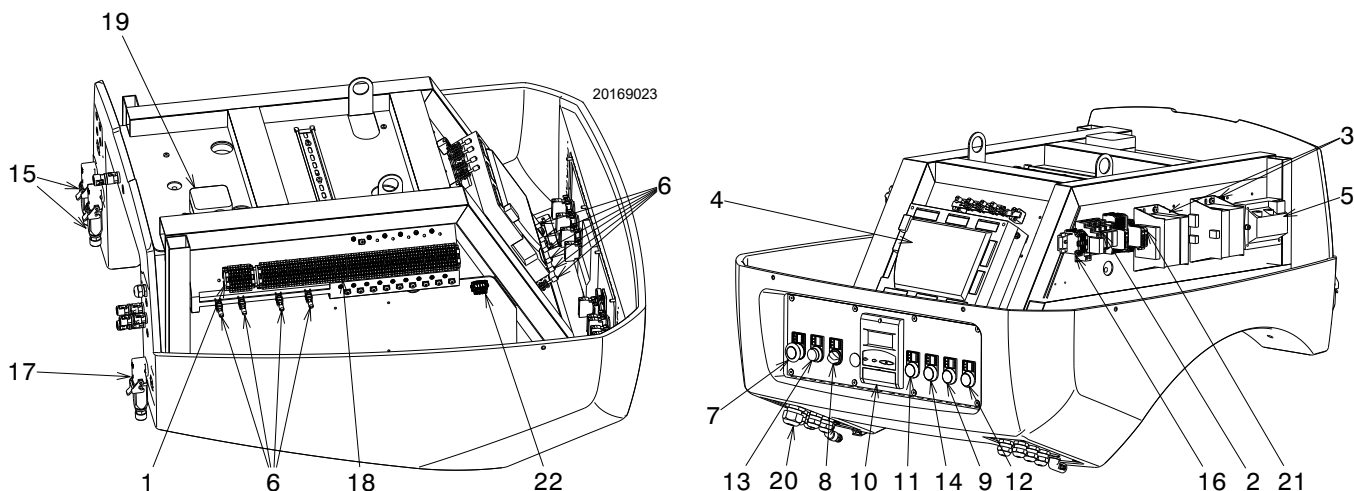

Fig. 5
- **flame control lockout:** if the pushbutton 13)(Fig. 5) (**red led**), it indicates that the burner is in lockout. release by pressing the pushbutton 13)(Fig. 5).